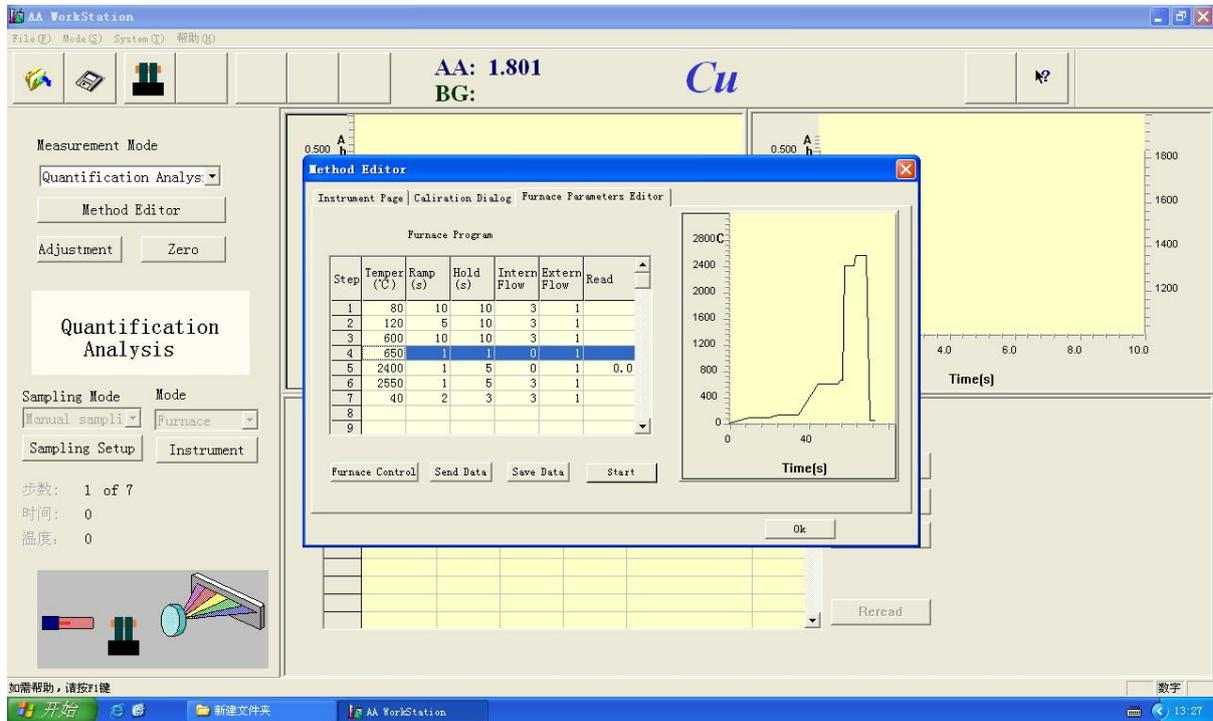

Figure 4-40b
- If want to delete some warming step such as step 3, please move the cursor to the step 3 and click, Figure 4-40b